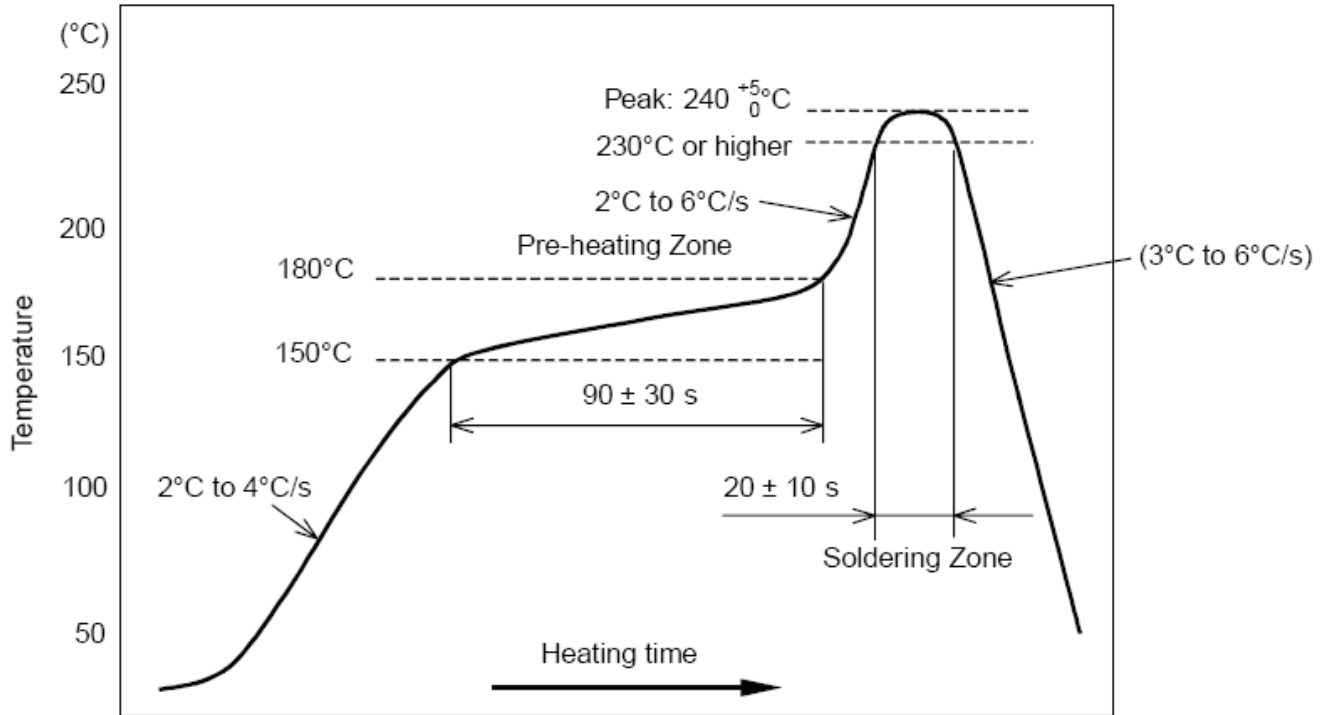

图 10-1. Temperature Profile for Evaluation of Solder Heat Resistance of a Component (at Solder Joint)
- Temperature measurement: Thermocouple d = 0.1 mm to 0.2 mm CA (K) or CC (T) at soldering portion or equivalent method
- Allowable reflow soldering times: 2 times based on the reflow soldering profile (see 图 10-1)
- Temperature profile: Reflow soldering will be done according to the temperature profile (see 图 10-1)